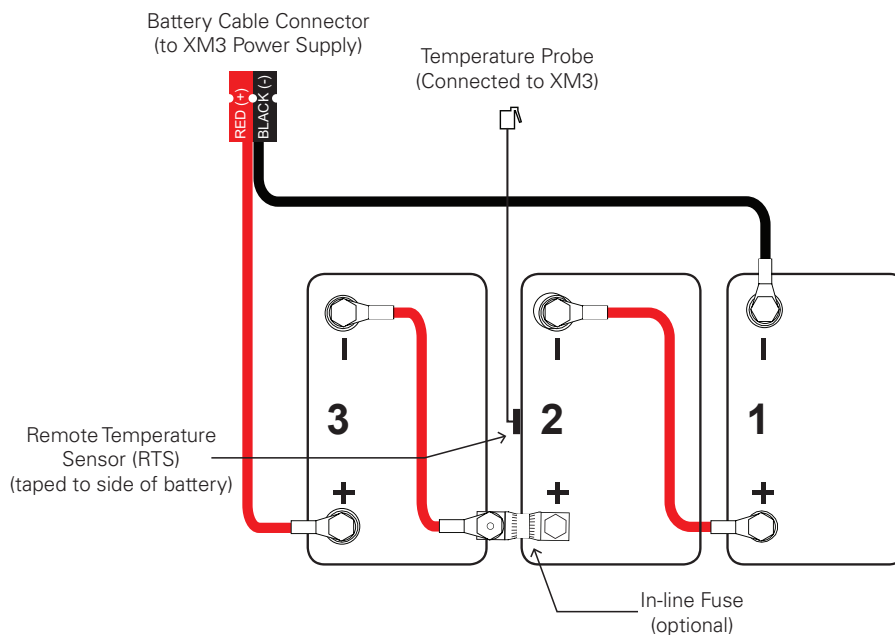
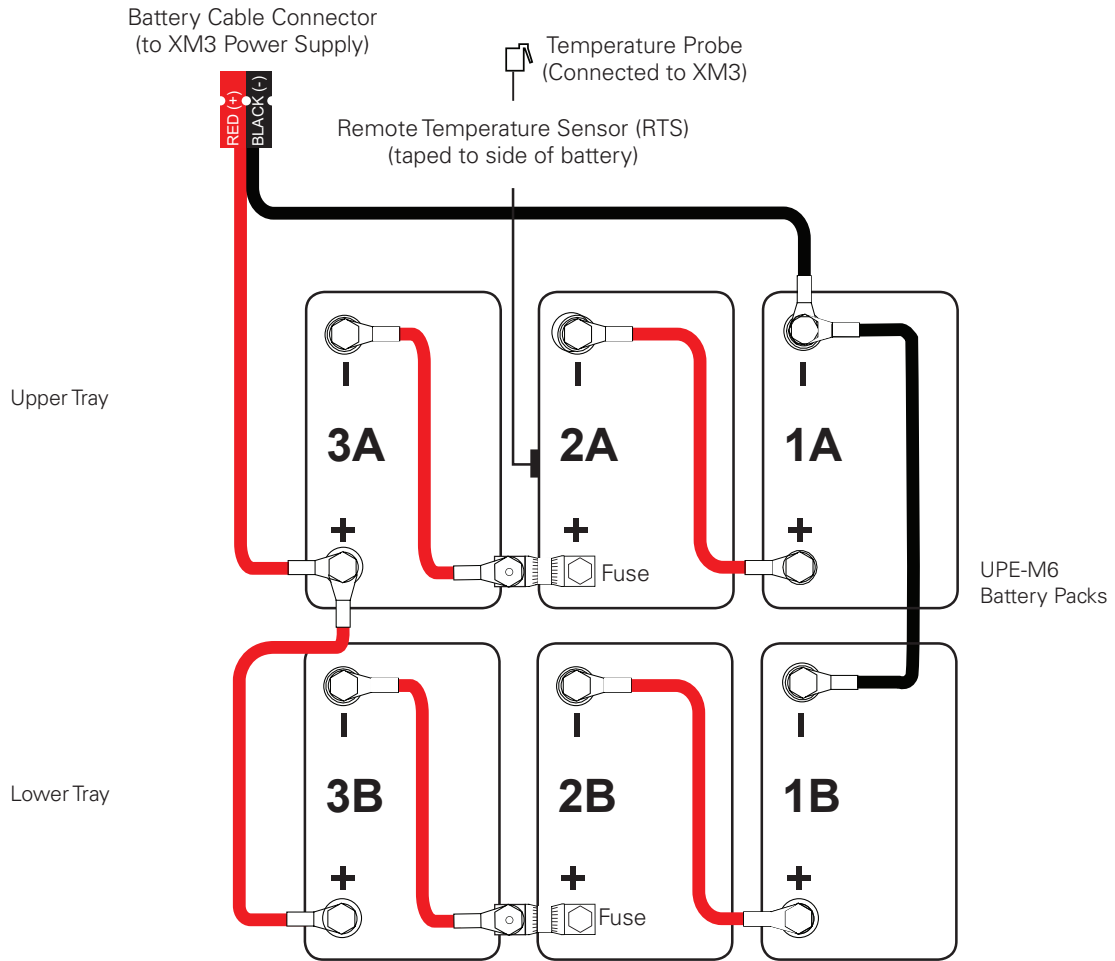

Fig. 3-11, UPE-M3 Battery Wiring Diagram (for use with slide tray)
Fig. 3-12, UPE-M6 Battery Pack
2. Place the batteries on the enclosure's battery slide tray or battery shelf. The correct arrangement of the batteries on the tray or shelves varies between enclosure models. See Figs. 3-11 and 3-12 for the correct battery arrangement. Leave a minimum of one inch of ventilation space between the batteries.
6. The power supply battery charger collects battery temperature compensation information with a Remote Temperature Sensor (RTS) attached to one of the batteries. Refer to the Fig. 3-11 or Fig. 3-12 to determine the RTS attachment point. See Section 3.1 for RTS the attachment procedure.